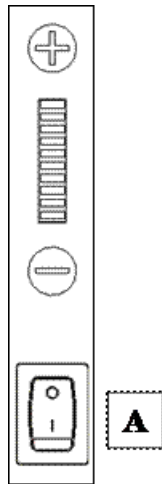
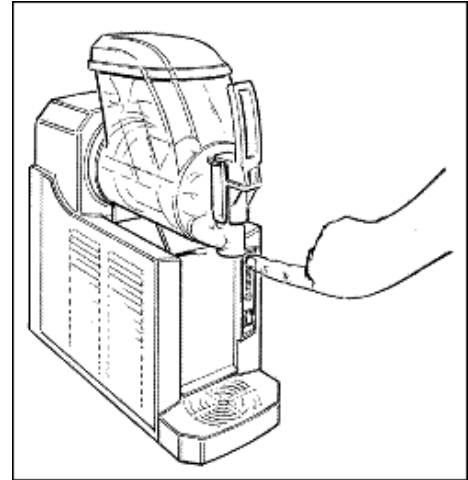

Fig. 54
Fig. 55
- Switch on the unit main switch A (Fig. 54).
- In order to activate the refrigerating system and to regulate the product consistency, it is necessary to use the buttons + and - on the control board (Fig. 55); operating on the + button, the number of lighted LED will increase with the product consistency; operating on the - button, the number of lighted LED will decrease with the product consistency (Fig. 54).